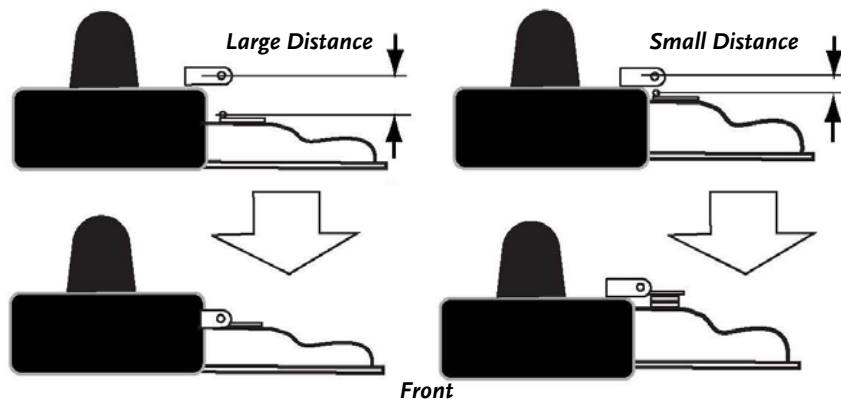

Figure 31
Because of the variations in Mower Decks designs, modifications may be required to the hinge installation to achieve proper alignment between the Universal Deck Adapter hardware and your Mower Deck hardware. Note the two (2) examples shown in (**Figure 31**).